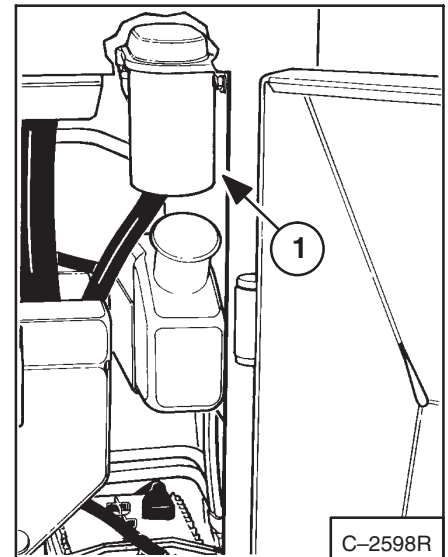

Fig. 1-45 Filter Element
1. Remove the filter element (Fig. 1-45, Item 1). Let the oil flow into the container.